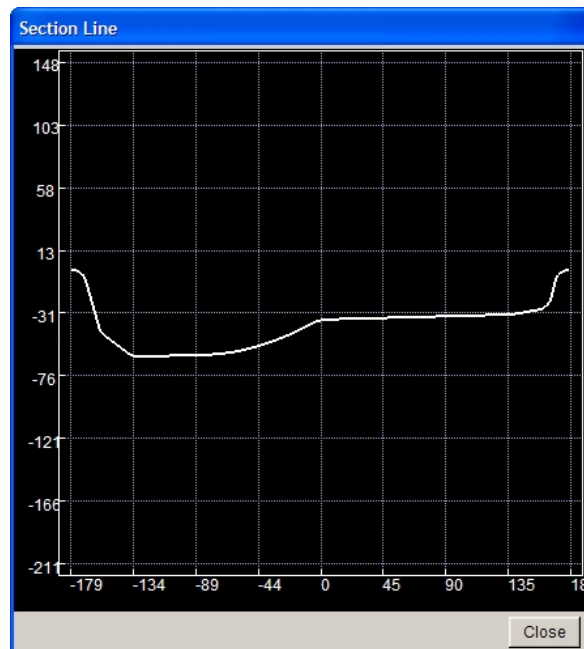

Figure 5.1.17 2D window to show section lines
- SHOW:** Show the shape of the selected section lines in 2D window, as shown in Figure 5.1.17.